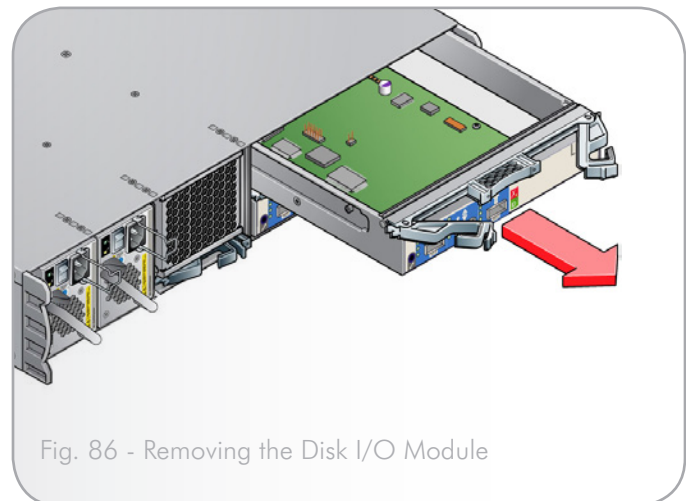

Fig. 86 - Removing the Disk I/O Module
4. Using the latches as handles and withdraw the module (Fig. 86).